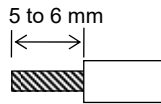

Figure 7. Sheath strip length
- 2) Use  $\Phi 5.5$  to  $\Phi 6.0$  mm cable (JIS VCTF (0.3 mm2 x 4 cores) cable recommended) for connection. Strip 5 to 6 mm sheath of each lead wire. (See Fig. 7.)